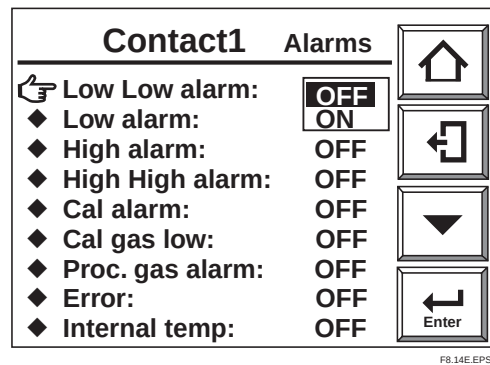

Fig. 8.14 Alarm Function Allocation
- 4) Select [Alarms] or [Others] and touch Enter key. You can set the condition(s) allocated to contact output. (Fig. 8.14).